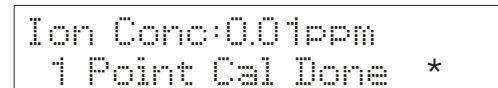

Figure 52
7. Press **ENTER** to confirm the first calibration point. The display will flash *1 Cal Point Done \**, then the meter proceeds to the next calibration point at least 1 decade apart from the first calibration point. See **Figure 52**.